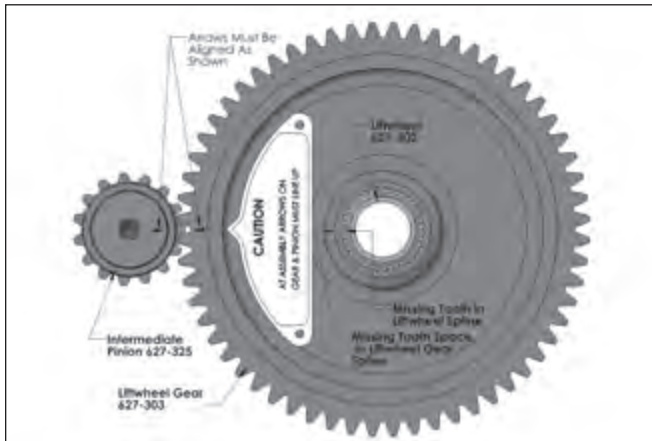

Figure 20. Non-Circular Gearing
1. Assemble liftwheel gear to liftwheel NOTE: These parts have their splines keyed in such a way that they will go together only one way. See Figure 20.
3. Check operation of gear train by rotating the pinion four (4) complete revolutions; liftwheel gear will turn one (1) complete revolution and the arrows will again be aligned as shown. If the arrows do not align or there is binding between the gear teeth, repeat the above steps.